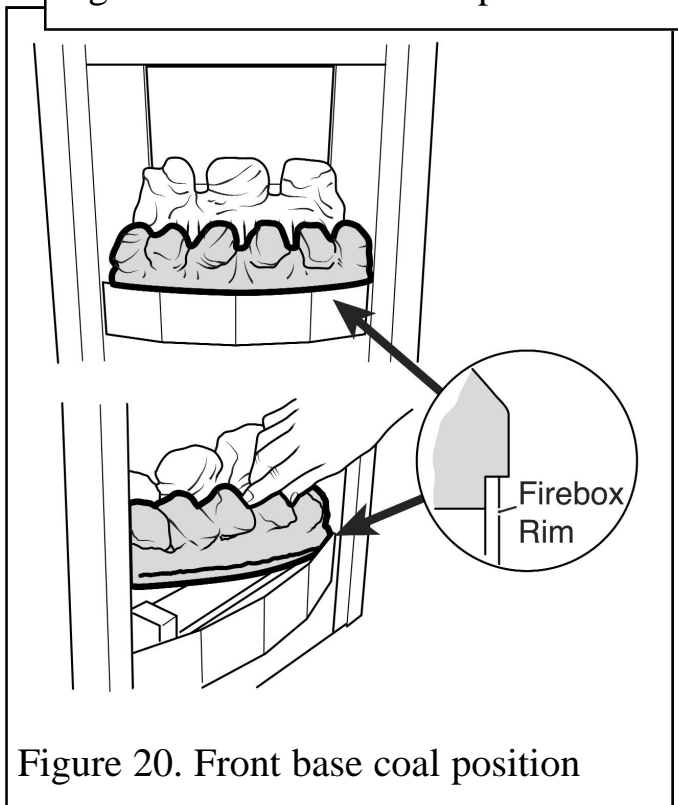

Figure 20. Front base coal position
2. Place the front base coal in the firebox with its bottom front locating over the front rim of the firebox. Pull the coal forward so that it locates immediately behind the front rim of the firebox (See figure 20). The front base coal will touch the rear base coal as it is located.